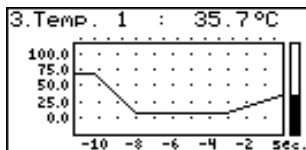

Fig. 6.9. "graph" mode
- **"Graph"** mode (Fig. 6.9) enables the momentary values or averaged values of measurements conducted for one of measurement channels to be viewed in the form of a graph.